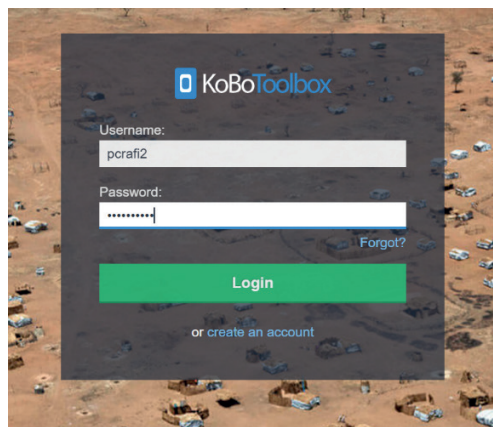

Figure 6: KoBoToolbox Login Page
1. Click on “Login” under option 1; this will take you to the login page (Figure 6) whereby you can login into the PCRAFI II account with the following details (in order to access PCRAFI II Data Collection Templates): Note that you have to log in to your respective country’s KoBo account. If you have created your own account, then you can login with your own credentials.